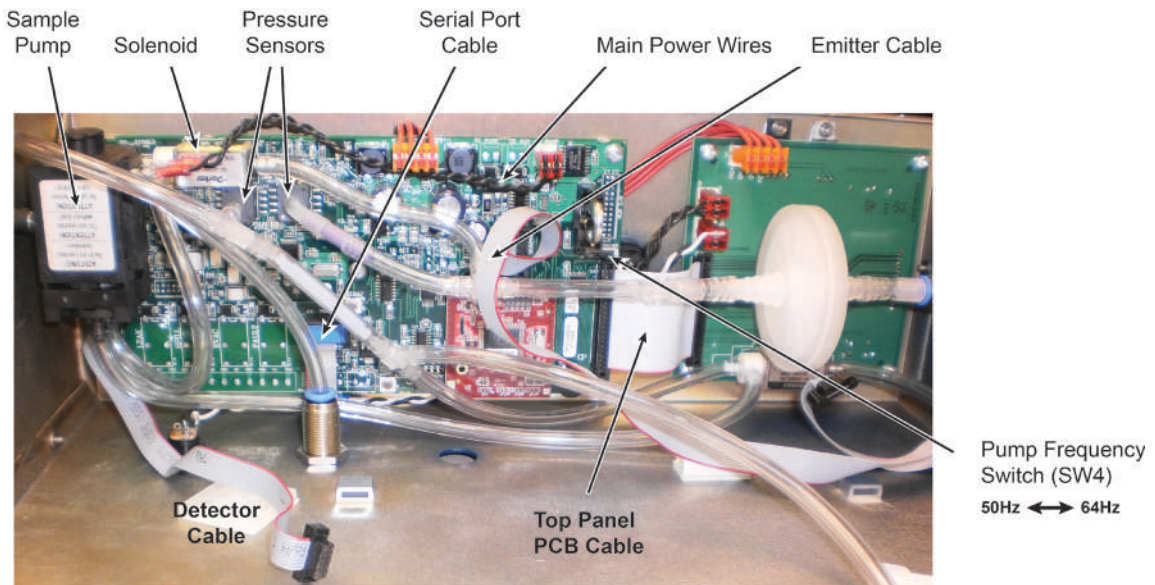

Figure 4. Portable Monitor Components
3. Take time to familiarize yourself with the internal components displayed in Figure 4.